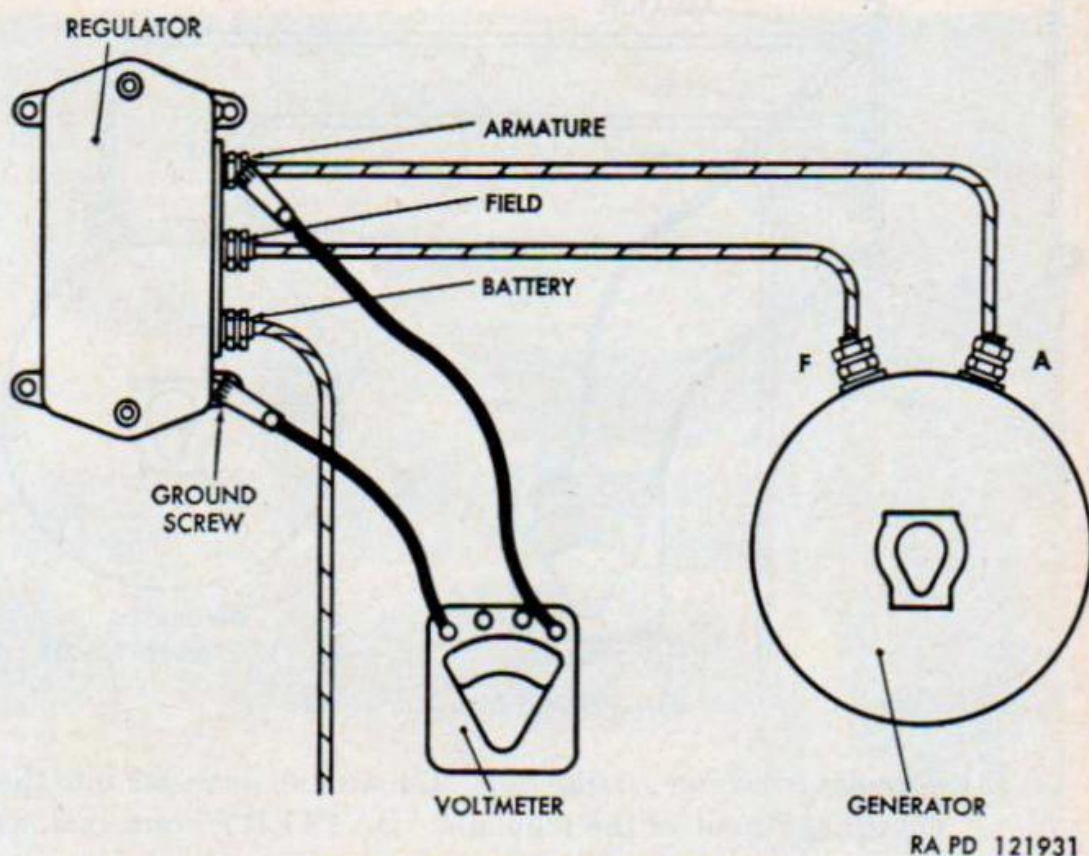
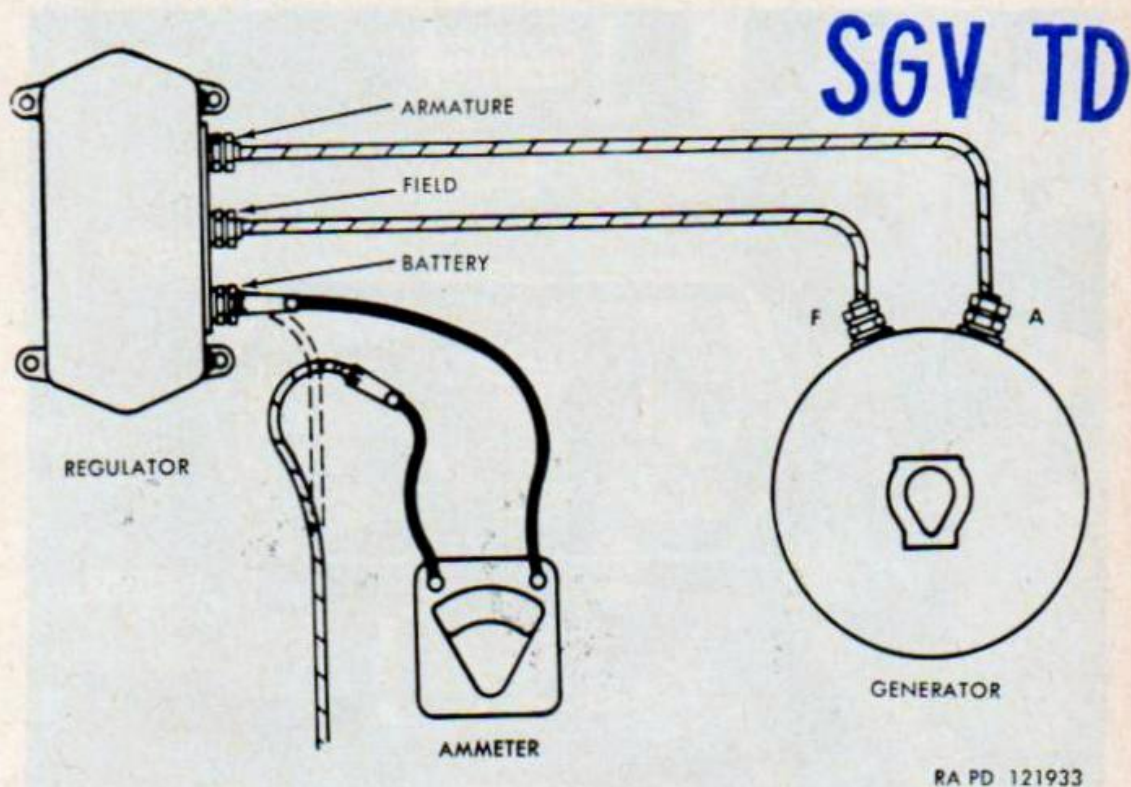

Figure 84. Circuit breaker check.
Figure 86. Current regulator check.
- (1) *Circuit breaker closing voltage test.* Connect a voltmeter between the armature terminal of the regulator and regulator base (ground screw), as shown in figure 84. Slowly increase generator speed and note closing voltage of the cut-out relay.
- (2) *Voltage regulator setting test.* Leave the voltmeter connected between the armature terminal and the ground screw
- (3) *Current regulator setting test.* Connect an ammeter into the charging circuit at the regulator "BATTERY" terminal, as shown in figure 86. There are two methods of checking the current regulator setting without removing the regulator cover.
of regulator (fig. 86); connect wire from center generator bypass capacitor and wire from "F" terminal of generator to center "FIELD" terminal on regulator (fig. 86); and connect wire from inner generator radio suppression capacitor and large wire from ammeter to inner "BATTERY" terminal on regulator (fig. 84). Connect regulator ground wire and clip on large wire to regulator support bracket, using toothed lock washer on cap screw.